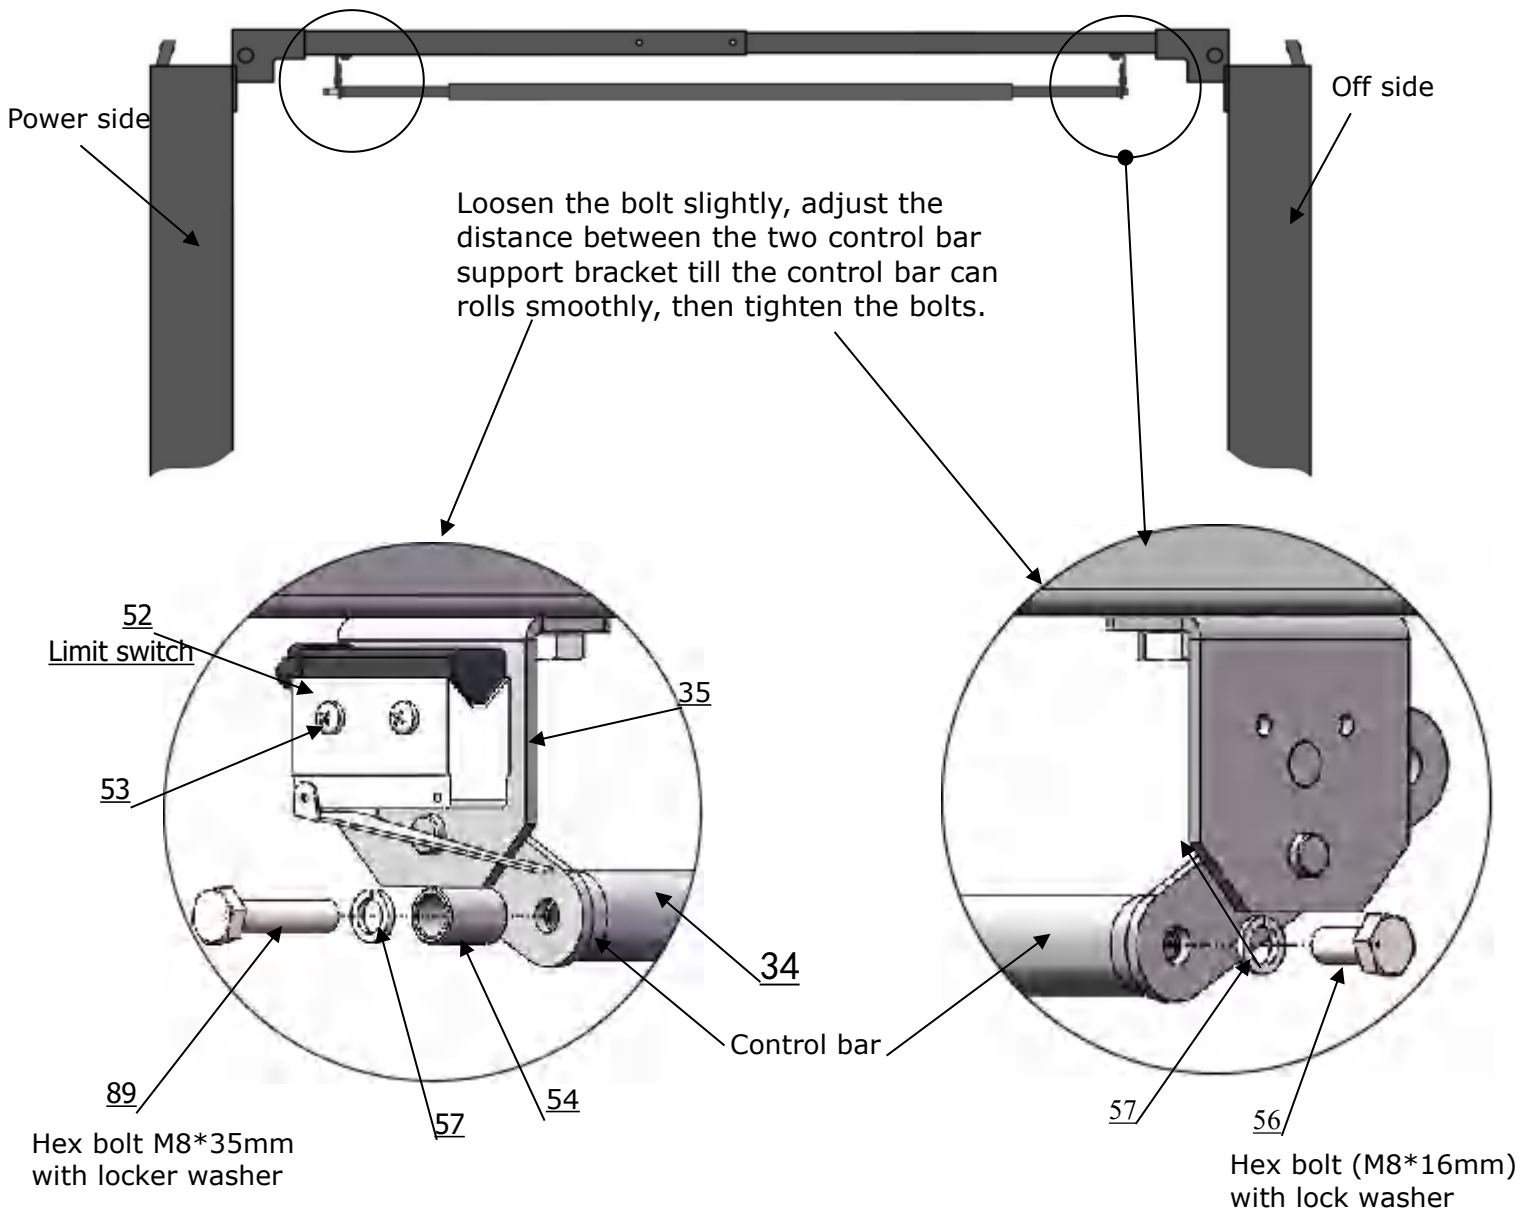

Fig.27
I. Install the limit switch control bar (See Fig. 27).